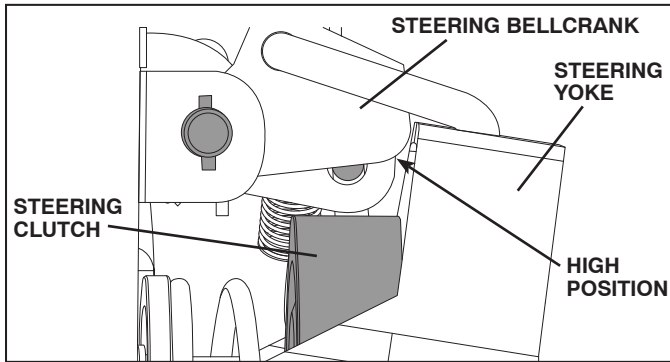

FIG. 31
**NOTE:** Fig. 31 shows the bellcrank positioned too high, causing clutch to disengage while driving and giving appearance of wheel slip.